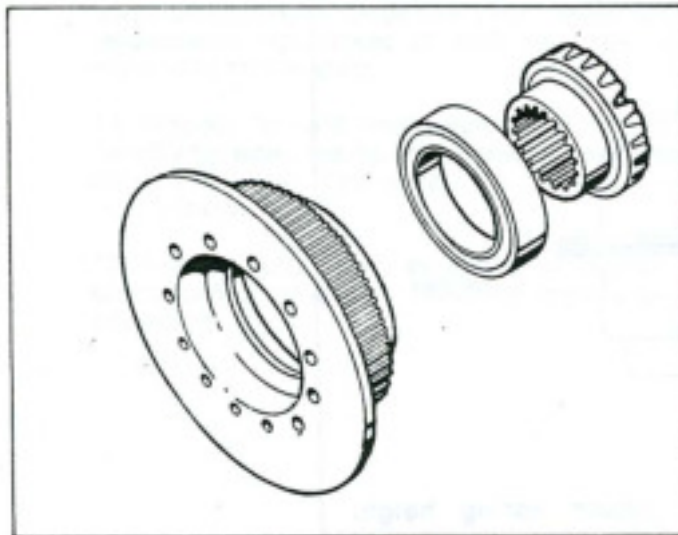

Fig. 26. Clutch end flange, bearing and bevel gear.
8. Likewise press the other ball bearing into reverse clutch flange (fig.26). Then press bevel gear into ball bearing. Check that ball bearings on both flanges are well seated.